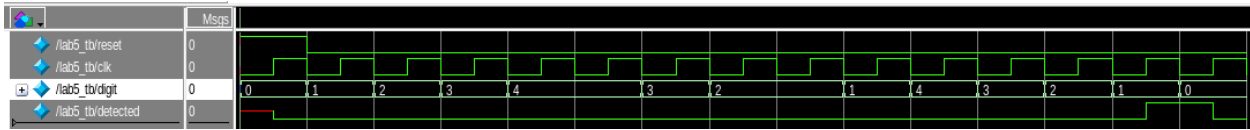
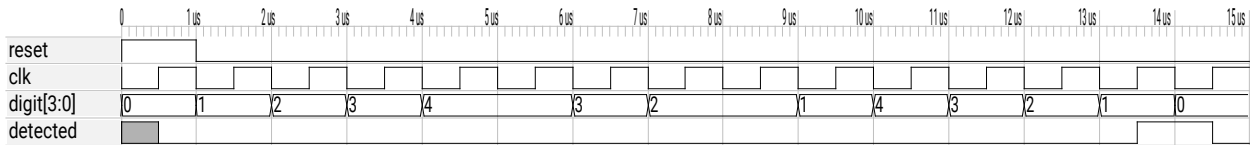

Figure 1: Simulation waveforms (Modelsim screen capture).
Figure 2: Simulation waveforms (GTKWave).
- A screen capture of the simulation waveforms similar to that in Figure 1 or Figure 2. Set the display radix for the **digit** waveform to decimal³.